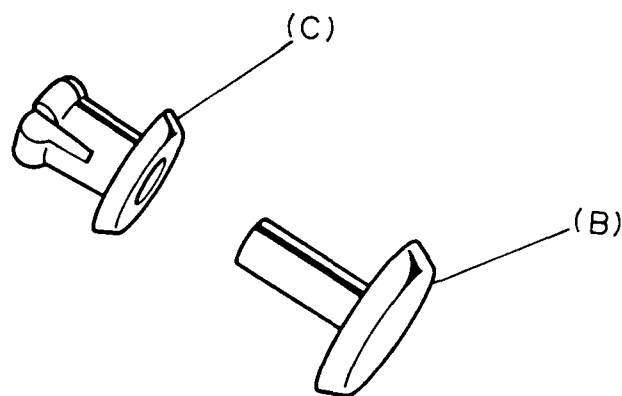

Figure 4-11 Fastener
2. The EL panel is held in place by two fasteners (A). Each fastener consists of a pin (B) and a collar (C) as shown in figure 4-11. Push up the tip of a pin, then using tweezers, pull out each pin from above.